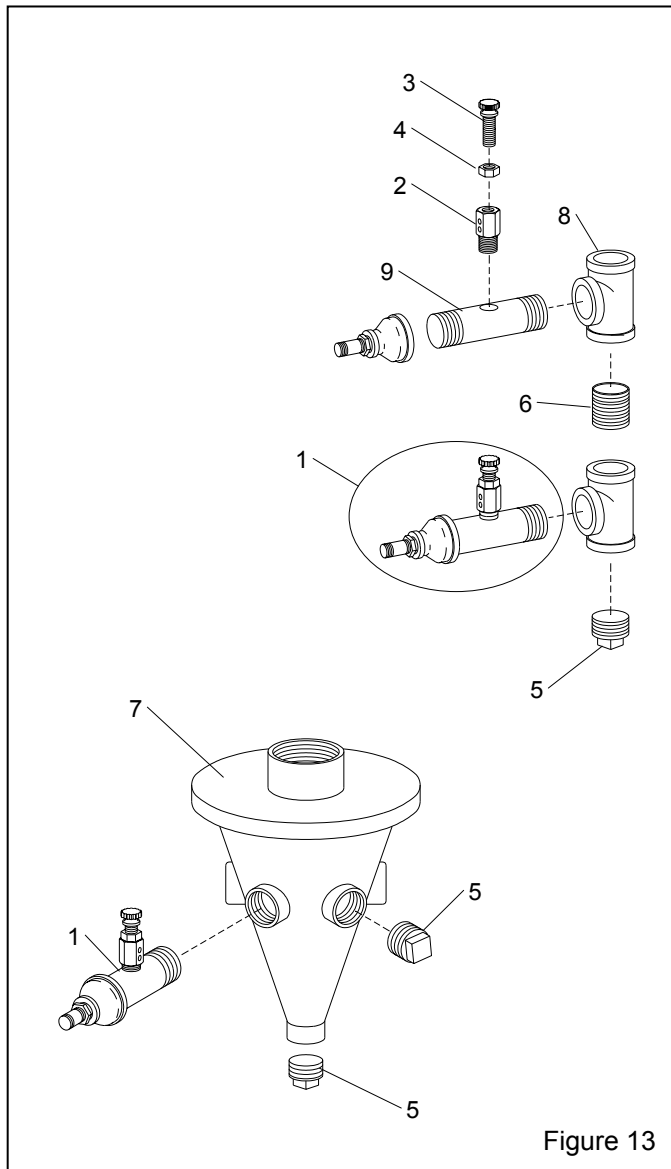

Figure 13
9.6 Media Metering Assemblies, Figure 13